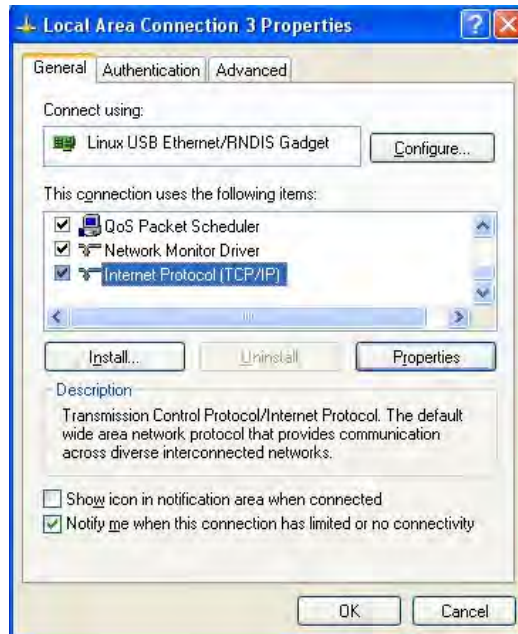

FIG. 33 Local Area Connection 3 Properties
4. In the Local Area Connection 3 Properties window (FIG. 33) under the **General** tab, select *Internet Protocol (TCP/IP)* and click on **Properties**.